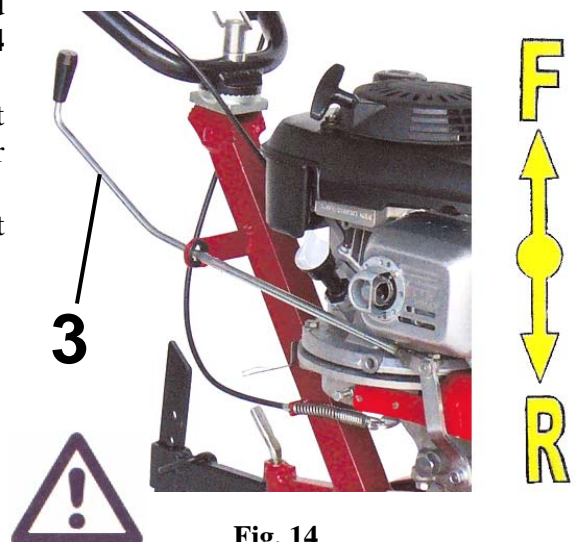

Fig. 14
2. Put the control speeds lever (**part. 3 fig.14**) in the wished position. See the speeds sticker on the gearbox rod (**fig.14** and control signs);
4. Keep the clutch lever up for disengage the speeds and put the lever (**part. 3 fig.14**) in neutral position.